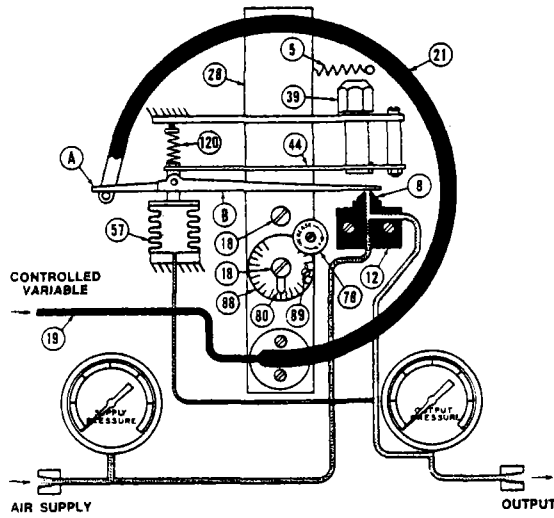

Figure 4 Proportional Controller
Nozzle Block (Figures 4 & 12)
Proportional Mechanism (Fig. 4) (Models 2705, 2706, 3705, 3706)
The proportional bellows (57) is fixed at one end and is directly connected to the output pressure from the nozzle block. The free end of the bellows is fastened to the proportional leaf spring (44). The flapper (B) rotates freely on the bearings mounted on the movable end of the proportional bellows. With the bourdon tube mounted for direct action as shown in Fig. 4, an increase in controlled variable causes the free end of the bourdon tube to rotate the flapper clockwise about the bearing, tending to lower the flapper to cover the nozzle and increase output pressure. The resultant increase in bellows pressure tends to raise the flapper bearing, causing the flapper to uncover the nozzle and decrease output pressure. In normal operation, the reaction of the proportional bellows to change in output pressure maintains the flapper in a position to throttle a steady output pressure.
The setting of the alignment spring (120) (Fig. 4) is a factory adjustment. The alignment spring is attached to the free end of the proportional leaf spring (44) and adjusted in compression to equal the force exerted by the proportional bellows (57) at 9 psi output pressure, so that the leaf spring is then flat at 9 psi output pressure.